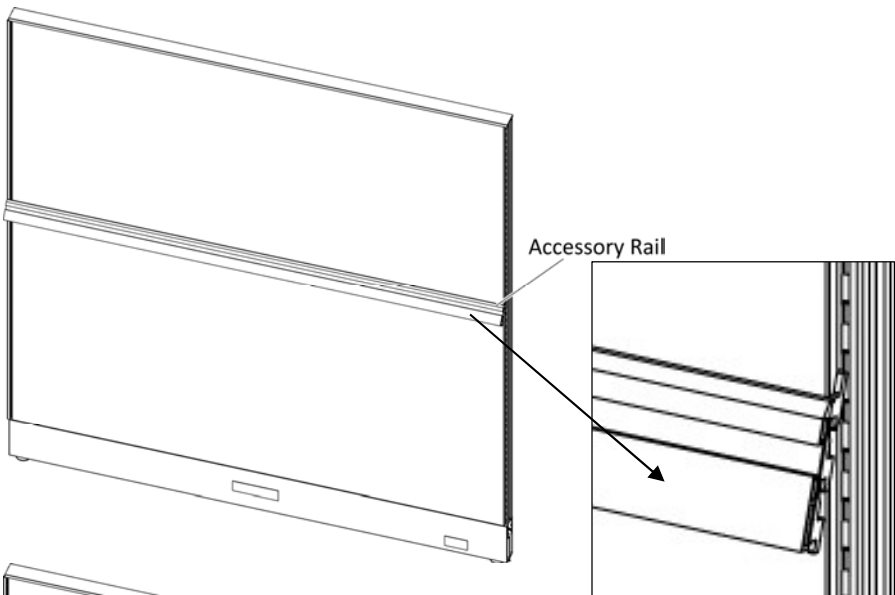

Figure 1
- 2. Place the upper hooks at their desired location into the slotted frame channel; lower the accessory rail and place the other hooks then release them down and it will be engaged, (Figure 1).